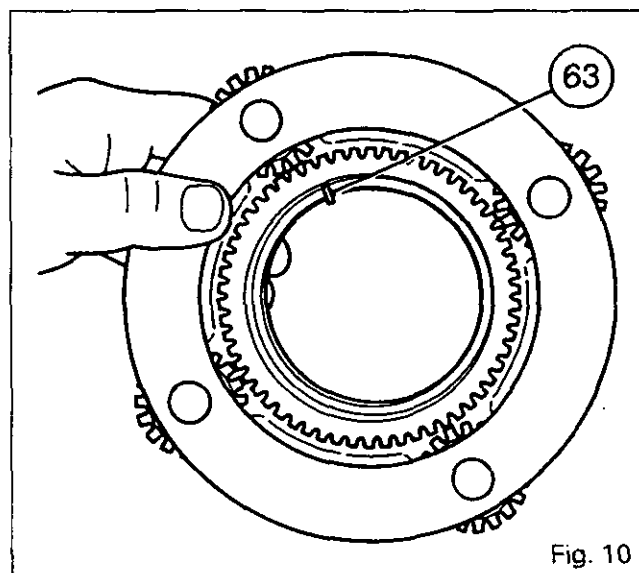

Fig. 10
18. Remove the circlip (55). Remove the bearing (57) and the spacer (56).
19. Separate the secondary planetary carrier (39) from the primary planetary carrier (28).
20. Remove the retaining ring (60) and the bearing (58).
21. Place the secondary planetary carrier in the vertical position. Extract the needles (63) (Fig. 10) by lightly tapping on a wooden block. Separate the planetary carrier from the primary sun gear (64) fitted with the retaining ring (62) and the deflector (75).
22. Remove the pressure plate (38), the springs (65), and the brake discs (41) separated from the pressure plate (44).
23. Remove the housing assembly (59), the backing plate (45) and the last disc (41). Remove the thrust washer (51).
24. Take out the bolts (46). Remove the cover (47) and the Belleville washer (52). Separate the backing plate (45), the clutch driving plates (50) and the driven plates (48). Remove the hub (54).
25. Take out the bolts (43). Detach and remove the secondary brake housing (42), and mark its position.
29. Fit the primary sun gear (64) along with the retaining ring (62) and oil deflector (75) on the secondary planetary carrier (39).